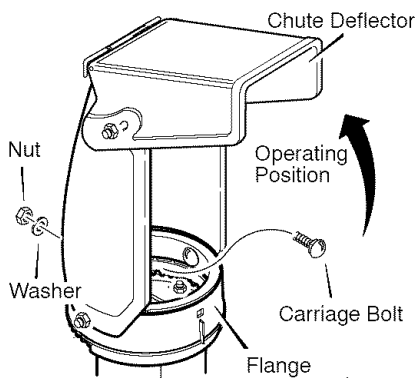

Figure 8
1. Remove the **carriage bolt**. See Figure 8.